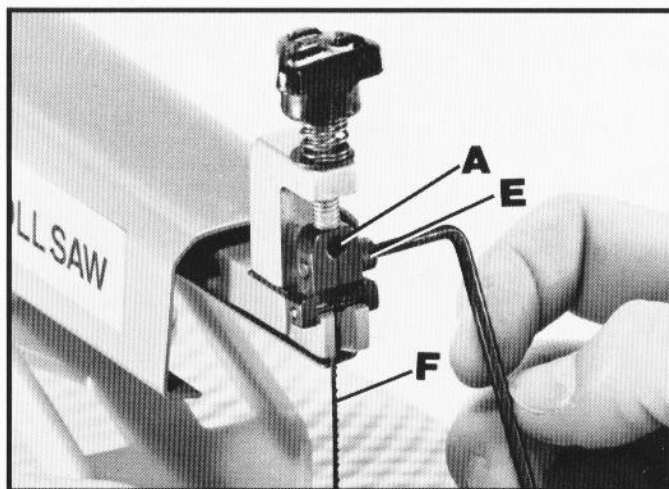

Fig. 23
5. Insert flat-end blade (F) Fig. 23, into blade holder (A) and tighten blade holder screw (E). **IMPORTANT: BLADE TEETH MUST POINT UPWARD.**